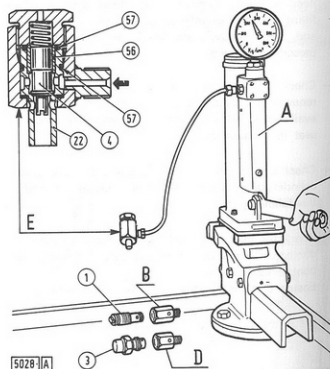

Fig. 223 - Valve Test Equipment
The pressure setting of relief valve (1, Fig. 209) and cylinder safety valve (3) can be checked using hand pump No. 290284 (see Fig. 223) fitted with adapters No. 290824 and No. 290826.
- Fit the complete valve to adapter No. **290834** (E, Fig. 223) and connect to hand pump No. **290284**.
- Using a stop watch, check the time taken to drop to 100 kg/cm² or 1,422 p.s.i. from 200 kg/cm² or 2,844 p.s.i. The time recorded should not be lower than six seconds. If leakage is unacceptable, try to remedy by renewing seals (57). Subsequently, repeat the test.